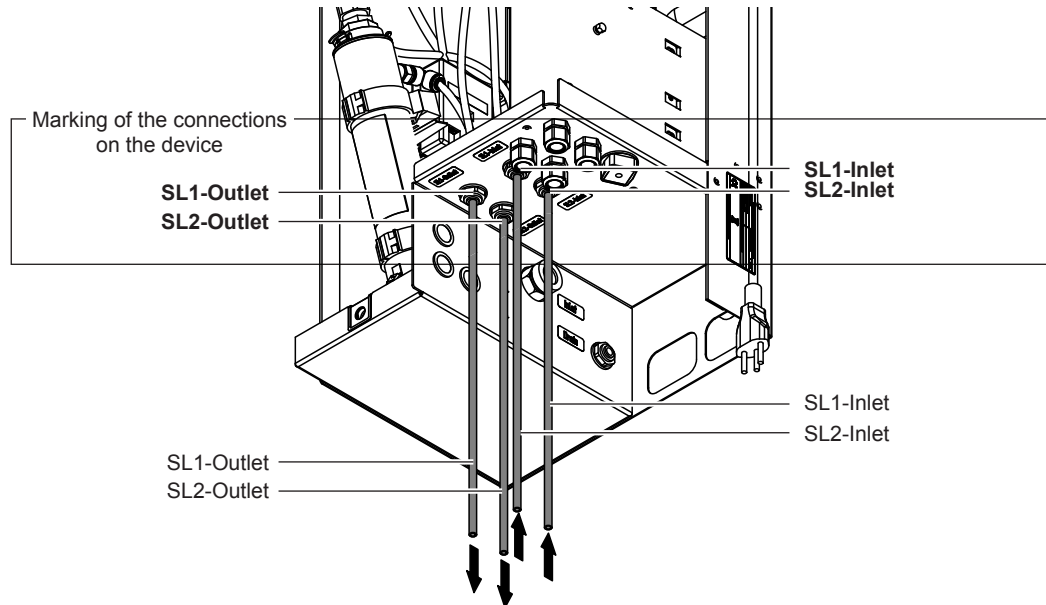

Fig. 38: Connection of the spray loop hoses
1. Connect the spray loop hoses from spray loop 1 and, if present, spray loop 2 to the central unit according to Fig. 38.
Important: If the spray loop hoses are not marked or are marked insufficiently, label them according to Fig. 38.
6. Reconnect the inlet hoses to the central unit (see Fig. 38).